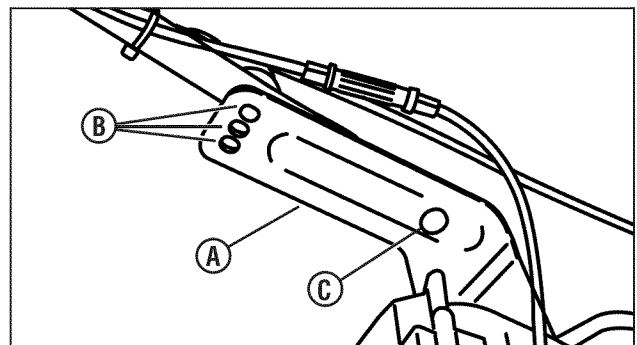

Figure 8: Adjusting the handle height
1. Remove the handle knobs, washers and carriage bolts from the lower handle **(A, Figure 8)**.
**NOTE:** Do not remove the lower set of handle hardware (C).